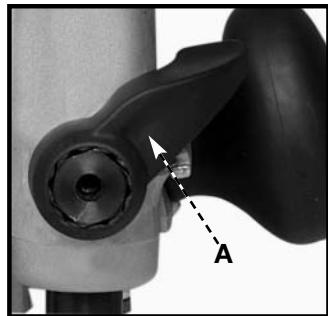

Fig. 14
2. Release the plunge mechanism by pulling the locking lever (A) Fig. 14 down. Lower the plunge mechanism until the router bit touches the work surface. Release the lever and push it to the right to lock the mechanism in this position.
1. Lock the plunge locking lever (A) Fig. 14 by moving it to the operator's right as far as it will go.
2. Push in on the plunge locking lever (A) Fig. 14.
3. Move the plunge locking lever (A) Fig. 14 to the desired location and allow it to spring back into position.